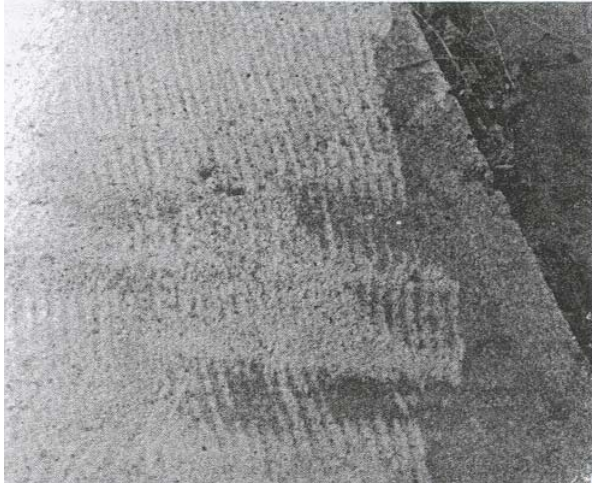

FIGURE 1
- 3) Surface finish and texture. The finest grained surface finish available from the planing process is comparable to a "swept or broomed" like finish. FIGURE 1. If a smooth, flat finish is desired, the planing process must be followed with a grinding or polishing type process. Many job requirements may call for large amounts of material to be removed, but followed with additional specifications requiring a finer surface finish or texture. Many times these jobs dictate